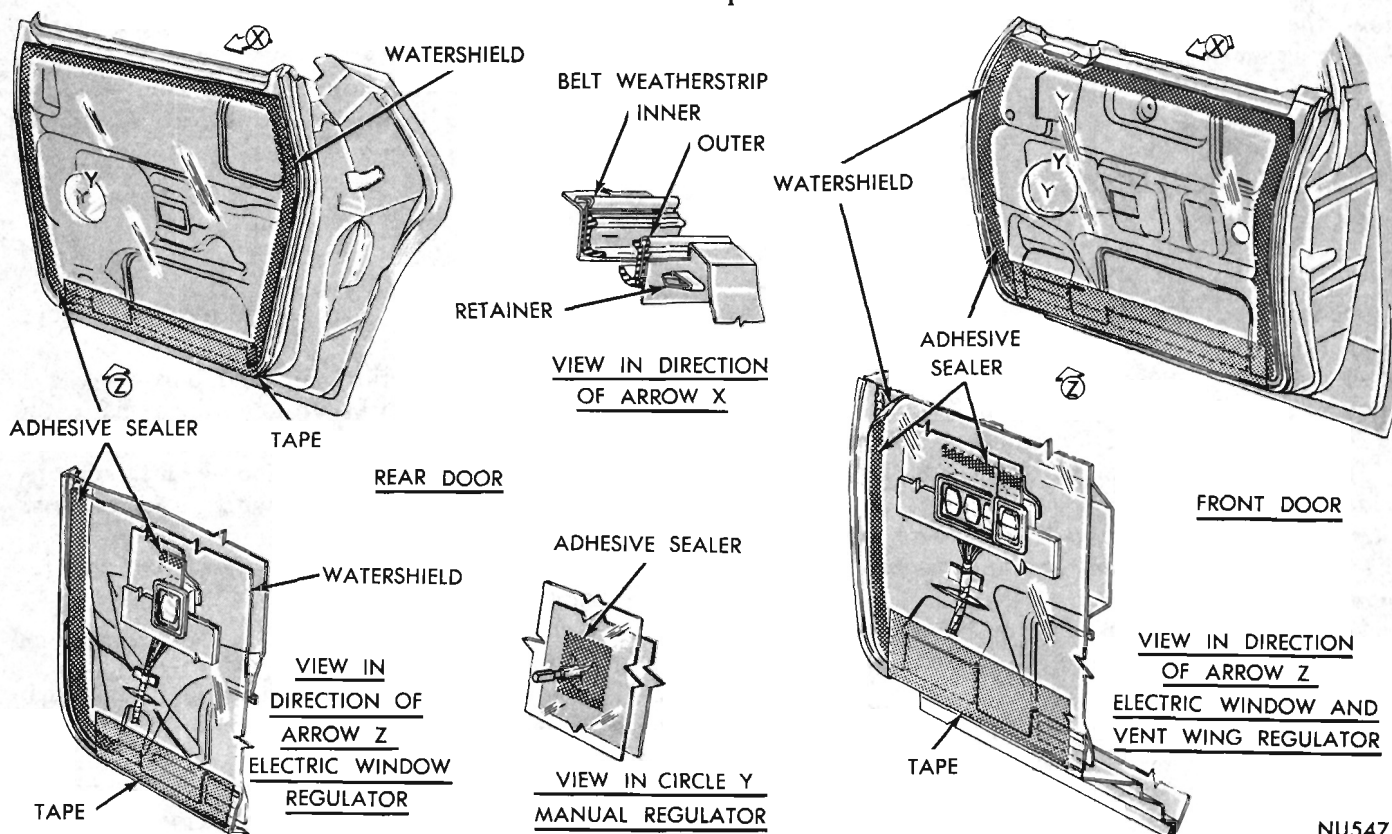

Fig. 15 - Door Watershields
- (1) Remove inside handles and arm rests.
- (2) Remove screws attaching trim panel to door inner panel.
- (3) Insert a wide blade screw driver next to the retaining clips between trim panel and door frame. Snap retaining clips out of door panel and remove panel.
- (4) Before installing trim panel, inspect condition of watershield (Fig. 15).
- (5) Align trim panel retaining clips with holes of door frame and bump into place with heel of hand.
- (6) Install trim panel to door screws, escutcheon washer, handles and arm rest.
Refer to Figure 15 for sealing areas and applications of watershields. The lower edge of shield must be inserted into the slots in bottom of inner panels.